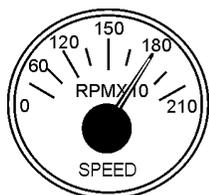

Figure 49. Engine Tachometer Gauge
9. The **tachometer gauge** (Figure 49) will indicate the speed of the engine when the generator is operating. Under normal operating conditions this speed is approximately 1800 RPM's.